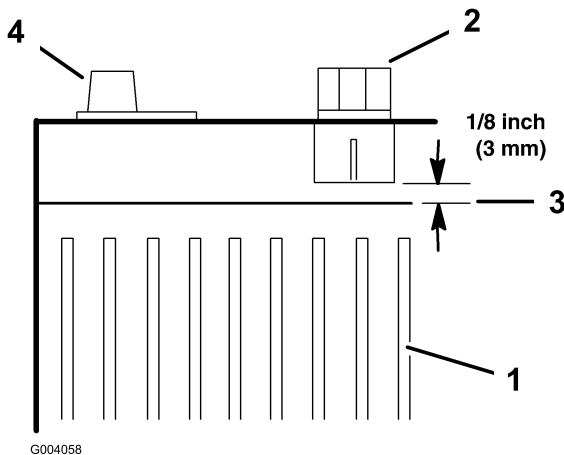

Figure 27
7. Add just enough distilled water to bring the electrolyte level to 1/8 inch (3 mm) below the bottom of each fill well (Figure 27).